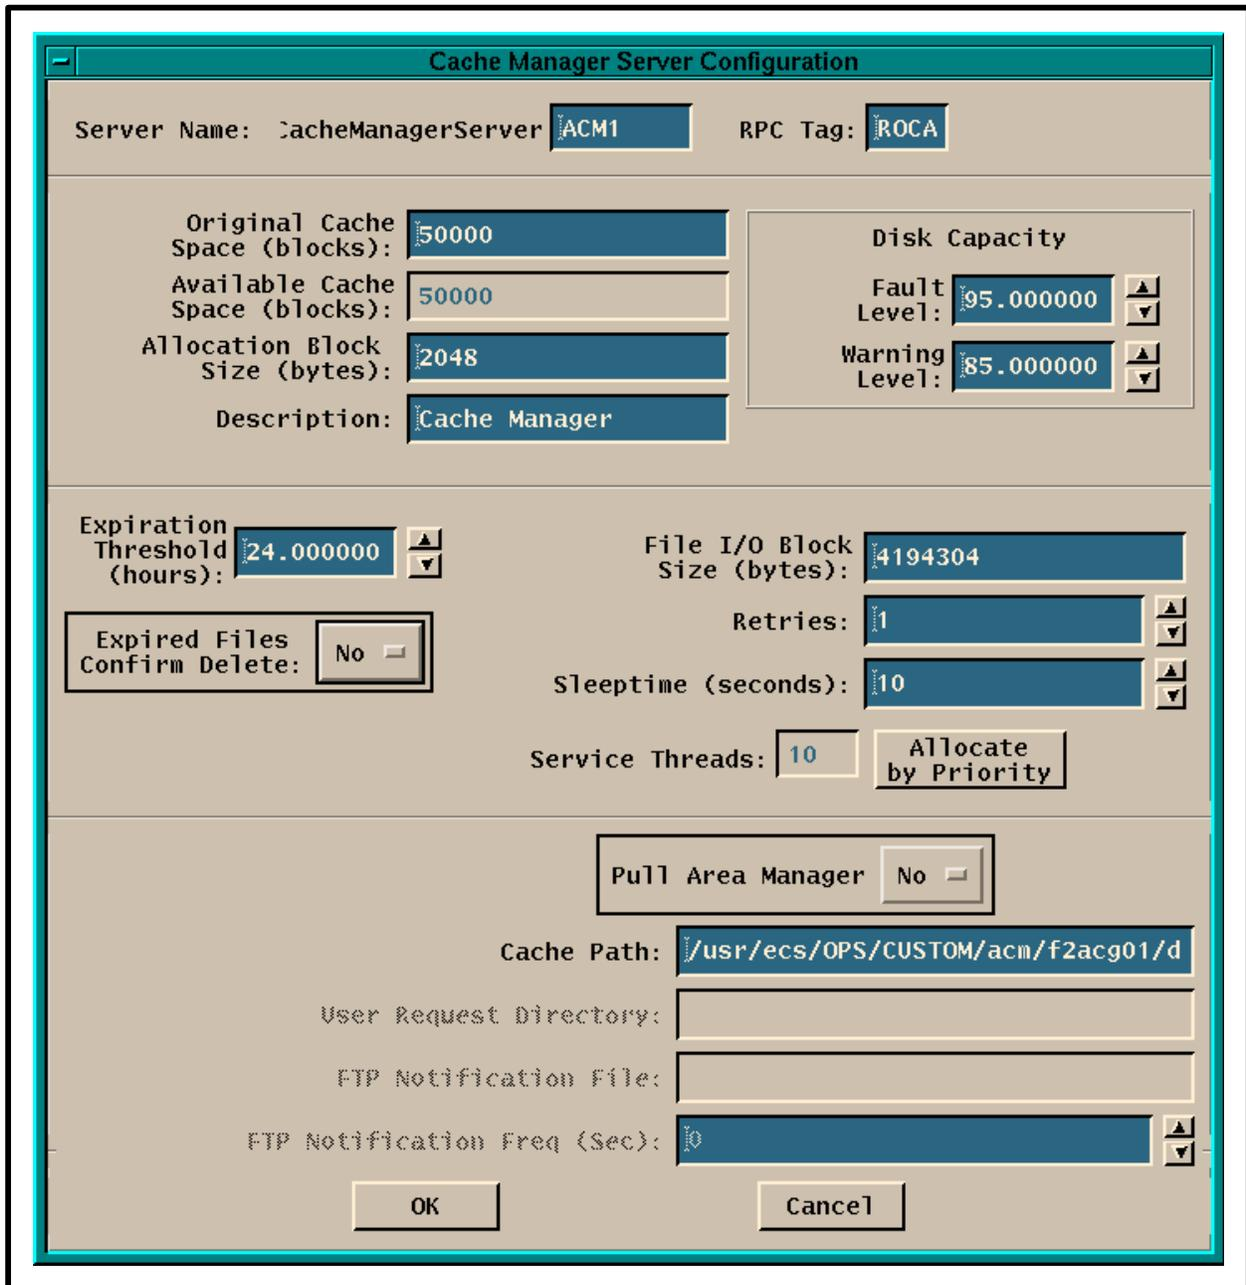

Figure 16. Cache Manager Server Configuration Dialogue Box
- The **Cache Manager Server Configuration** dialogue box (Figure 16) is displayed.
- The **Cache Manager Server Configuration** dialogue box (Figure 16) displays data in the following fields (as applicable):